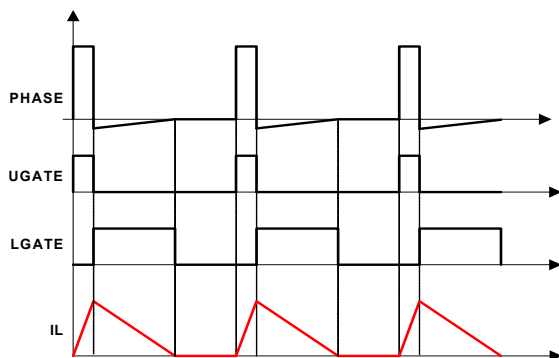

FIGURE 28. DIODE EMULATION
The R3™ modulator can operate in Diode Emulation (DE) mode to increase light-load efficiency. In DE mode the low-side MOSFET conducts when the current is flowing from source-to-drain and does not allow reverse current, emulating a diode. As shown in Figure 28, when LGATE is on, the low-side MOSFET carries current, creating negative voltage on the phase node due to the voltage drop across the ON-resistance. The IC monitors the current by monitoring the phase node voltage. It turns off LGATE when the phase node voltage reaches zero to prevent the inductor current from reversing the direction and creating unnecessary power loss.
If the load current is light enough, as Figure 28 on page 32 shows, the inductor current will reach and stay at zero before the next phase node pulse and the regulator is in Discontinuous Conduction Mode (DCM). If the load current is heavy enough, the inductor current will never reach 0A and the regulator is in CCM although the controller is in DE mode.